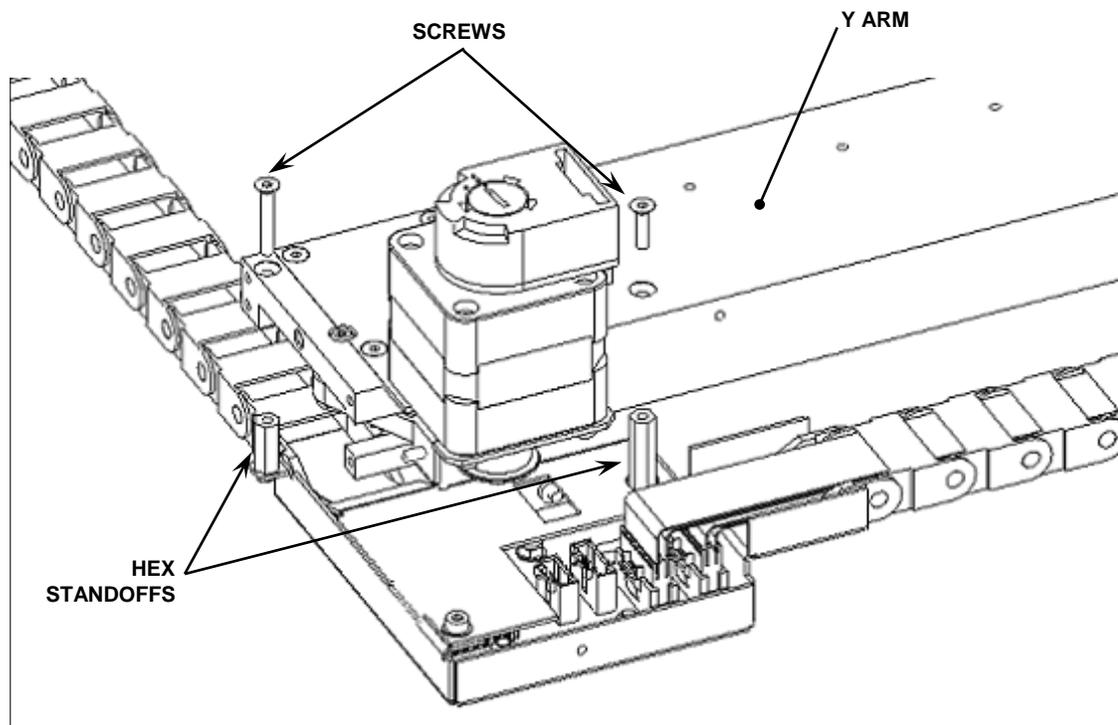

Figure 8-7: Removing the Y-Transition Box
3. Remove the transition box assembly from the Y arm by removing the two screws indicated in Figure 8-7.